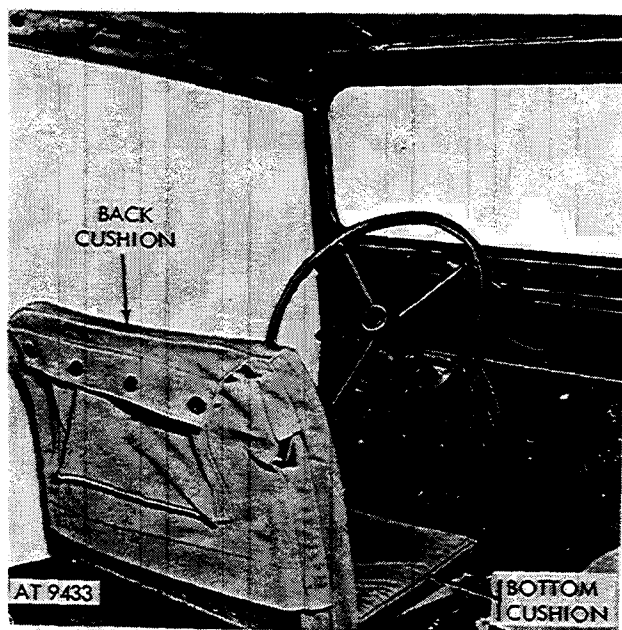
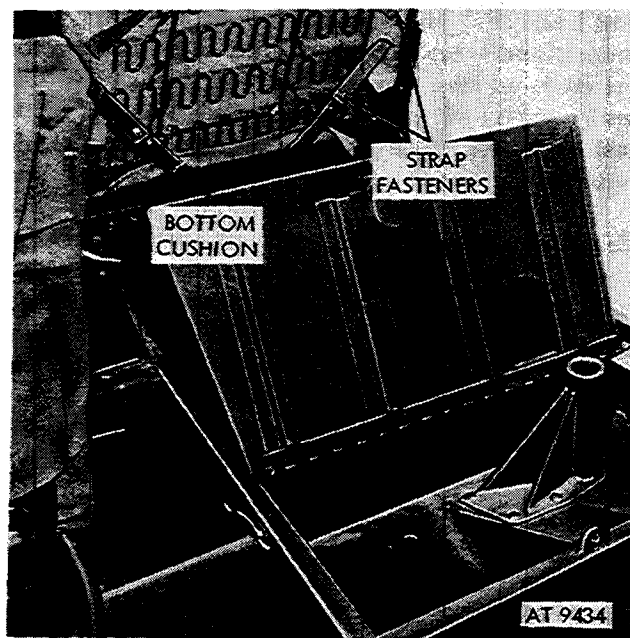

Figure 2-402. Front seat back.
Figure 2-403. Front seat cushion straps and fasteners.
**a. Front Seat Cushions.** To remove the back cushion from the front seat frame, grasp cushion at top and pull upward until free of frame (fig. 2-402). To remove seat bottom cushion, tip the seat forward and from the underside unfasten the strap fasteners and remove the cushion (fig. 2-403).